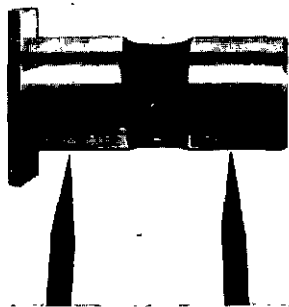

Fig. 4-13, (T465065). Inspect the turbocharger bearing
1. Turbocharger Bearing (4), Fig. 4-13.